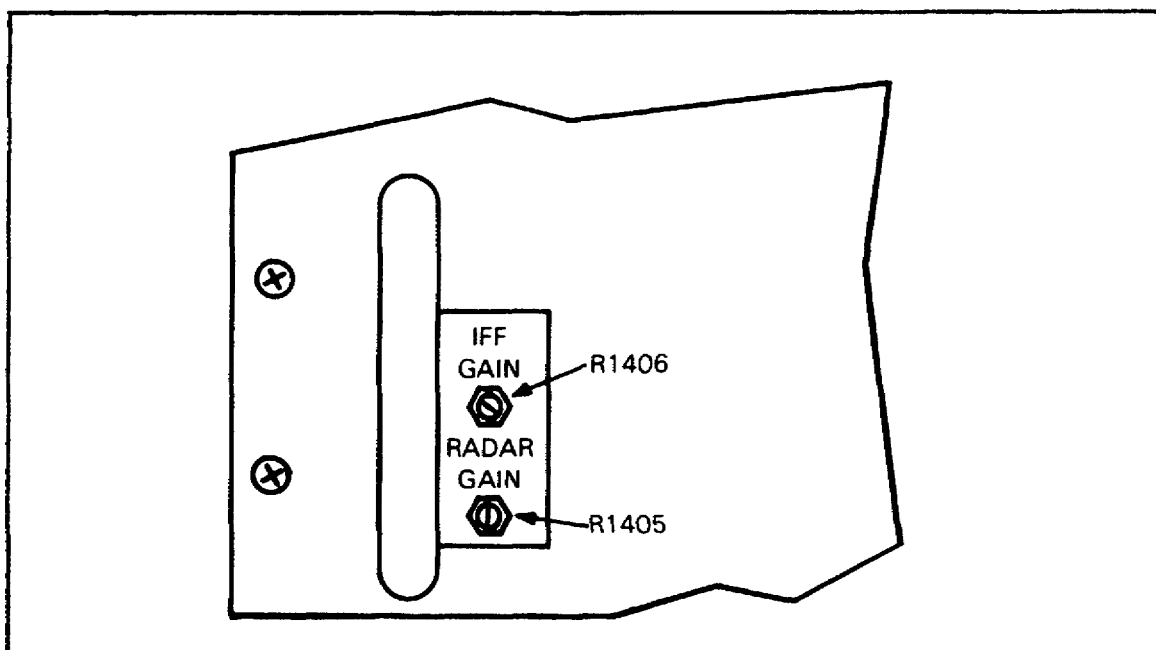

Figure 11. Radar and IFF gain controls.
b. Rotate radar gain control R-1405 and IFF gain control R-1406 fully counterclockwise (ccw). (See Figure 11.)
- _____ IFF gain control (Figure 11)
- _____ Radar gain control (Figure 11)